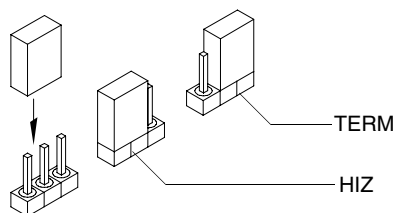

FIG. 3 Termination jumper pin settings for JP4 and JP5
1. Remove the jumper that is on pins 1 and 2 of jumper trios JP4 and JP5. (Pins 1 and 2 are marked HIZ - see FIG. 3).
2. Place the jumper on pins 2 and 3 of jumper trios JP4 and JP5. (Pins 2 and 3 are marked TERM - see FIG. 3). This terminates the incoming DMX input with a 120 ohm resistor.